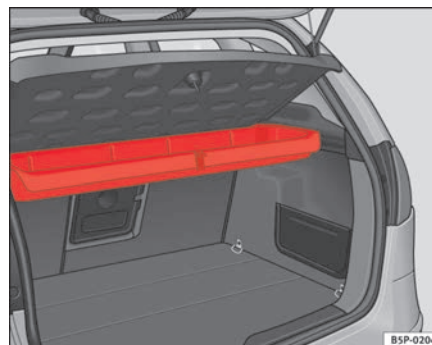
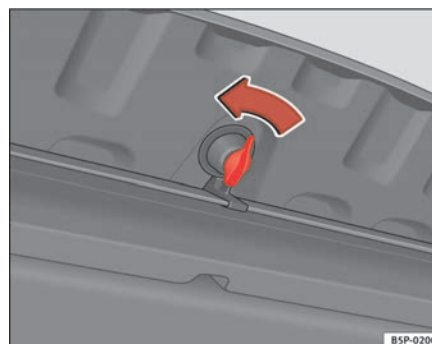

Fig. 122 Warning triangle storage under the rear cover
Fig. 123 Opening the storage compartment
The warning triangle* is located in a stowage box under the luggage compartment cover ⇒ page 146, fig. 122. To open this storage compartment, turn the knob 90° fig. ⇒ page 146, fig. 123.
- Open the storage compartment by turning the knob 90° ⇒ page 146, fig. 123.